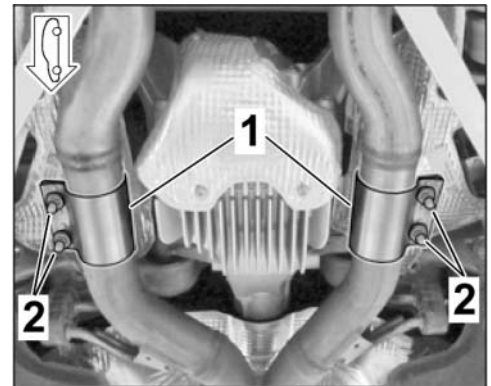

Figure 9
2.5 Align clamping sleeve Ø 65 x 88 (2 x) on exhaust pipe on front silencer/rear silencer (at the left/right) so that the clamping sleeve is not touching/rubbing at any point (⇒ *Figure 9*).